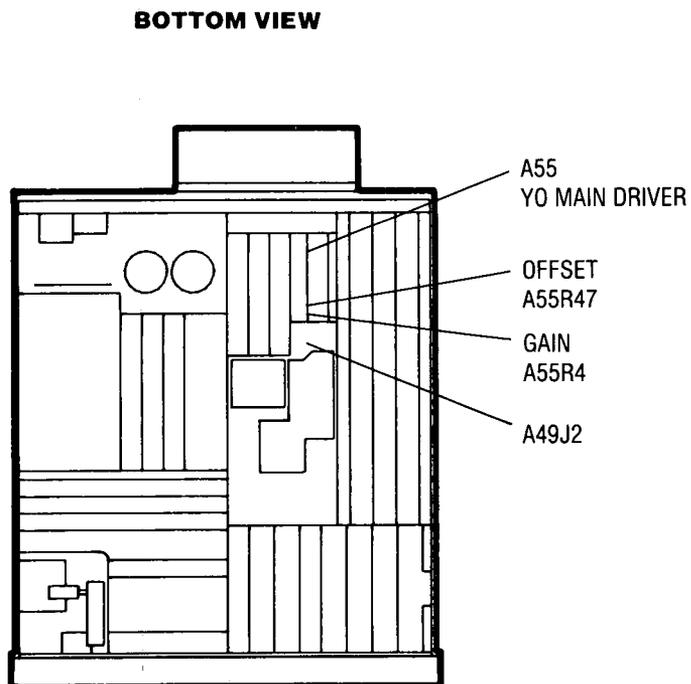

Figure 5-16. YO Main Driver A55 Adjustments Location
4. Adjust A55R47 (OFFSET, Figure 5-16) for an indication of 2.3 GHz \pm 1 MHz on the frequency counter.
6. Adjust A55R4 (GAIN, Figure 5-16) for an indication of 6.999 GHz \pm 1 MHz on the frequency counter.